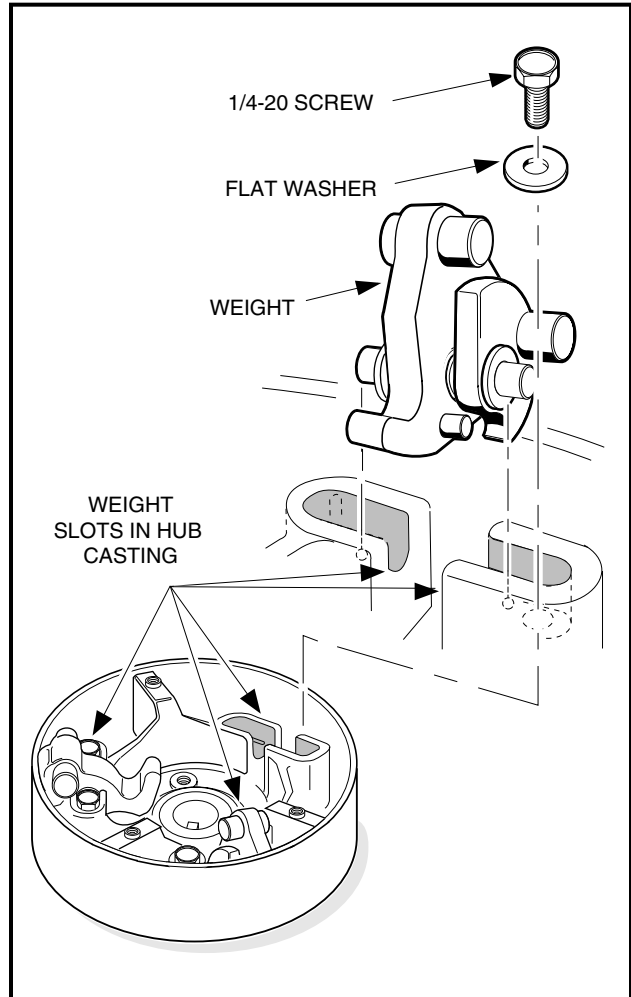

Figure 17-9 Weight Position
- 5.1. Remove the screws and flat washers attaching the weights (**Figure 17-9, Page 17-9**).
11. Install the weight assemblies into the slots in the hub casting (**Figure 17-9, Page 17-9**). Make sure the mounting pin protrudes an equal amount on each side of the weights when the assemblies are in position (**Figure 17-14, Page 17-11**).
15. Install a no. 10-24 button retaining screw with flat washer through each button and into the rib. Tighten the screws to 34 in-lb (3.8 N-m) (**Figure 17-9, Page 17-9**).